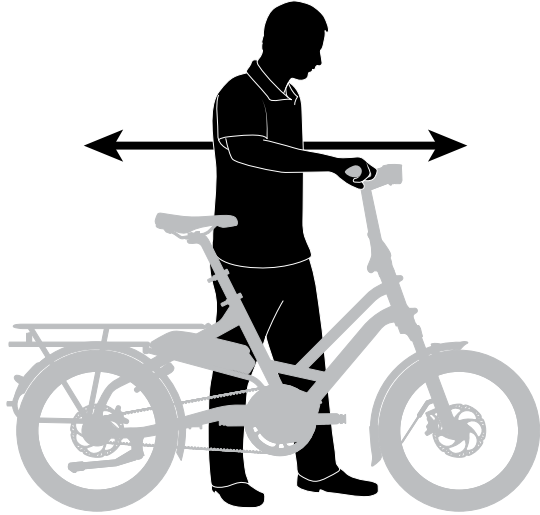

fig. 14
- Squeeze the front brake and rock the bike forward and back (fig. 14). Does it feel solid? If you feel a clunk with each forward or backward movement of the bike, you probably have a loose headset. Have your Dealer check it.